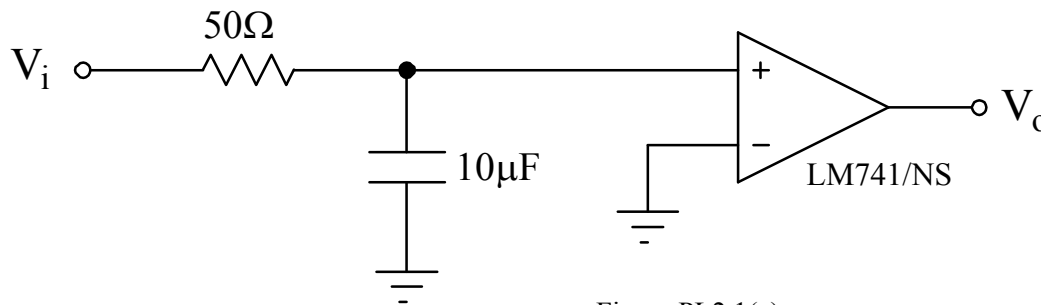

Figure PL2.1(a)
- (a) Generate the netlist for the circuit of Fig. PL2.1(a). Then use SPICE to determine the voltage transfer characteristic (VTC) V_o versus V_i for $V_i = (-10\text{mV to } 10\text{mV in } 0.1\text{mV steps})$. Again, for the 741 op amp, use the SPICE model given on-line on the course website in the file 'lm741.mod', and bias it with $\pm 15\text{V}$ supplies.
- (e) Now replace the 50Ω resistor in Fig. PL2.1(a) with a $10\text{M}\Omega$ resistor and determine the value of offset voltage using SPICE. From this value, determine the input bias current into the positive terminal of the op amp assumed by the 'lm741.mod' model.
- (f) What percent error in offset voltage estimation (mV) does the circuit of Fig. PL2.1(a) incur with the 50Ω resistor if one neglects bias current? (Use the value of bias current determined in part (e).)
- (h) Assuming that the circuit depicted in Fig. PL2.1(b) uses the op amp model defined in 'lm741.mod', what is V_o ? What is the source of this voltage?